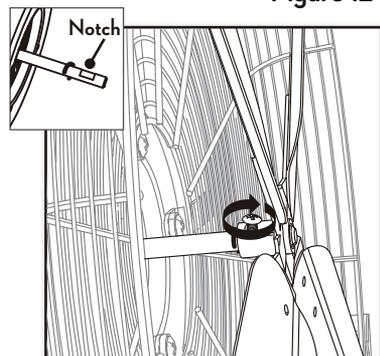

Figure 14
5. Tighten the screw on the blade assembly to secure it to the motor shaft. Make sure that the end of the screw is positioned within the notch on the shaft. Figure 14.